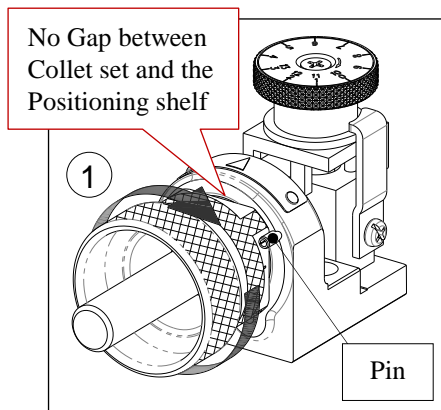

Fig. 12-2
- ① Inserting the Chuck set into the Positioning shelf (connecting closely without any interval), Slot No.1 of the Chuck set align with the Pin on the Positioning Shelf then turn it clockwise to the end. (Fig. 12-2)